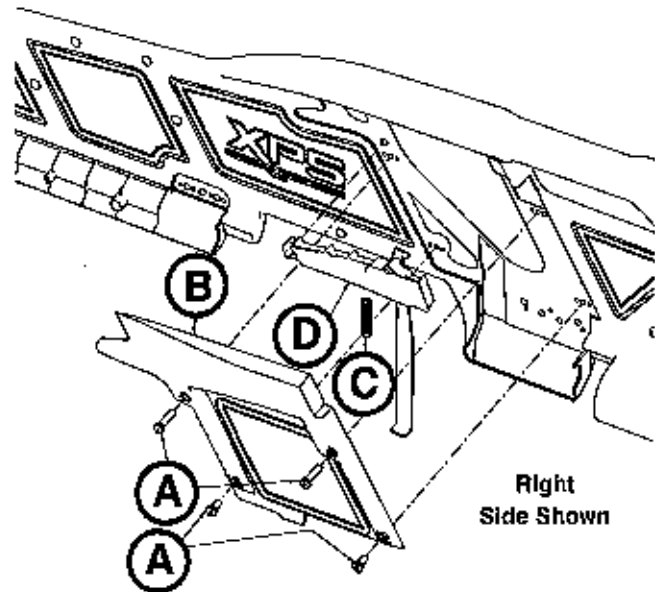

Figure 121
3. Using a 3/32" hex wrench, remove the four screws (A) that secure the release cover (B) to the overmold assembly to remove the release cover (Figure 121).
4. Using a small slotted screwdriver, pry the release handle return spring (C) up to remove the spring (Figure 121).
5. Grasp the release handle assembly (D), and hinge it upward on the spring side to remove it from the cover (Figure 121).